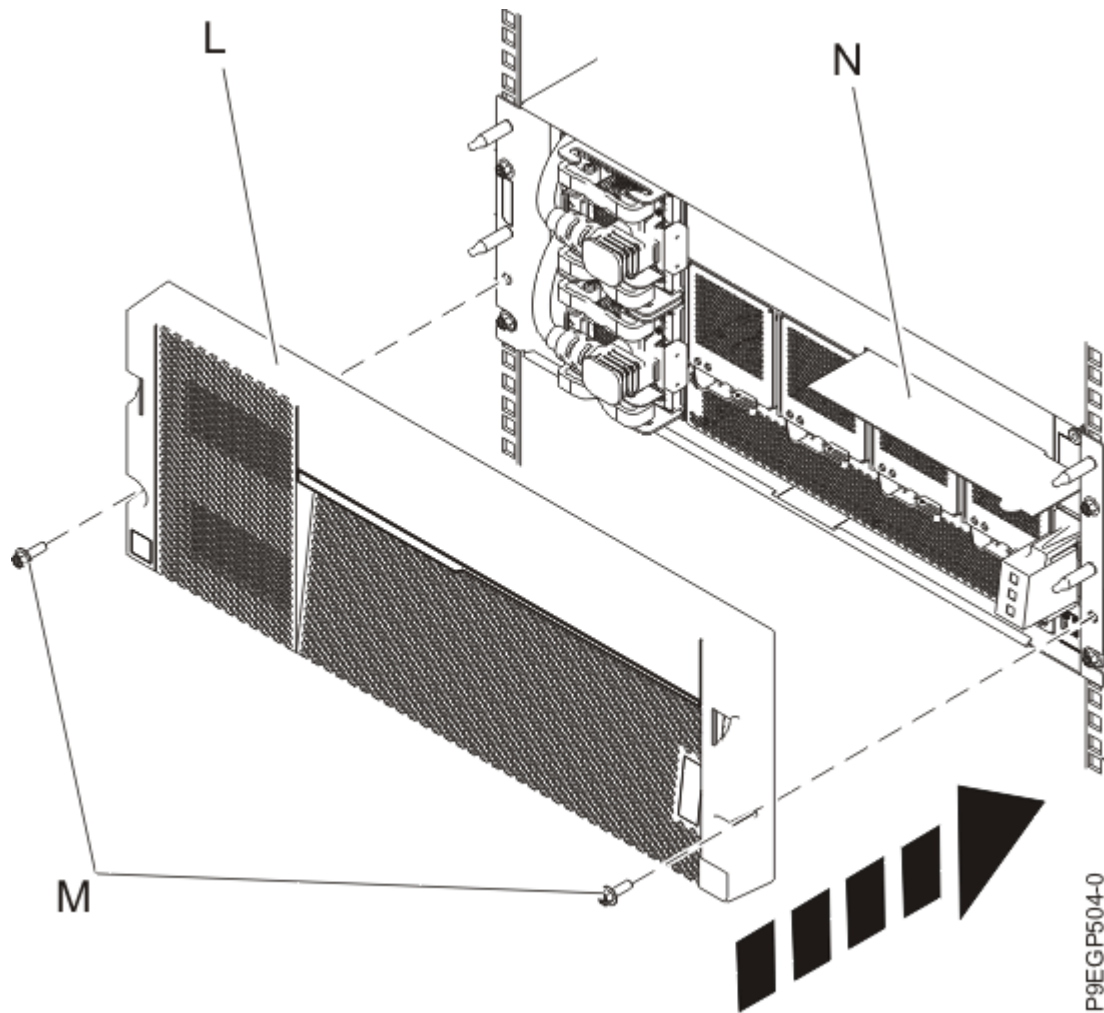

Figure 10. Installing the cover and service information card
- a) Press the cover (**L**) into place and secure it with two M5 screws (**M**) on the left and right rails as shown in Figure 10 on page 14.